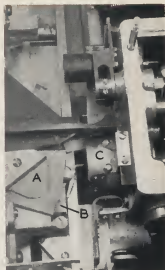

Fig. 11—Slug channel.
not been low-slugged. A deeper cut than this may bleed into the top of high-aligning faces, and if less is removed, there will be a tendency to excess thickness at the top of the slugs. To adjust, insert a small screw-driver in hole (B) Fig. 13 in lower slug guide shoe and turn out several turns. Push up on the screw to loosen the locking wedge (C). Back out on screw (D) one or two turns, and then tighten locking wedge screw. With low slugger out of operation, pass slugs through the Corrector, turning in on screw (D) a little at a time until correct adjustment is reached. Replace chip shield. If necessary to replace the back-knife for sharpening, remove chip chute (A) Fig. 11, and the chip shield (B) which will be found beneath it. Then proceed as above, removing long screw from hole (B) Fig. 13, together with the spring and locking wedge. The knife can now be removed. Blow all dirt out of seats of knife, insert sharp knife, reassemble parts and proceed with adjustment for proper trim as outlined above.